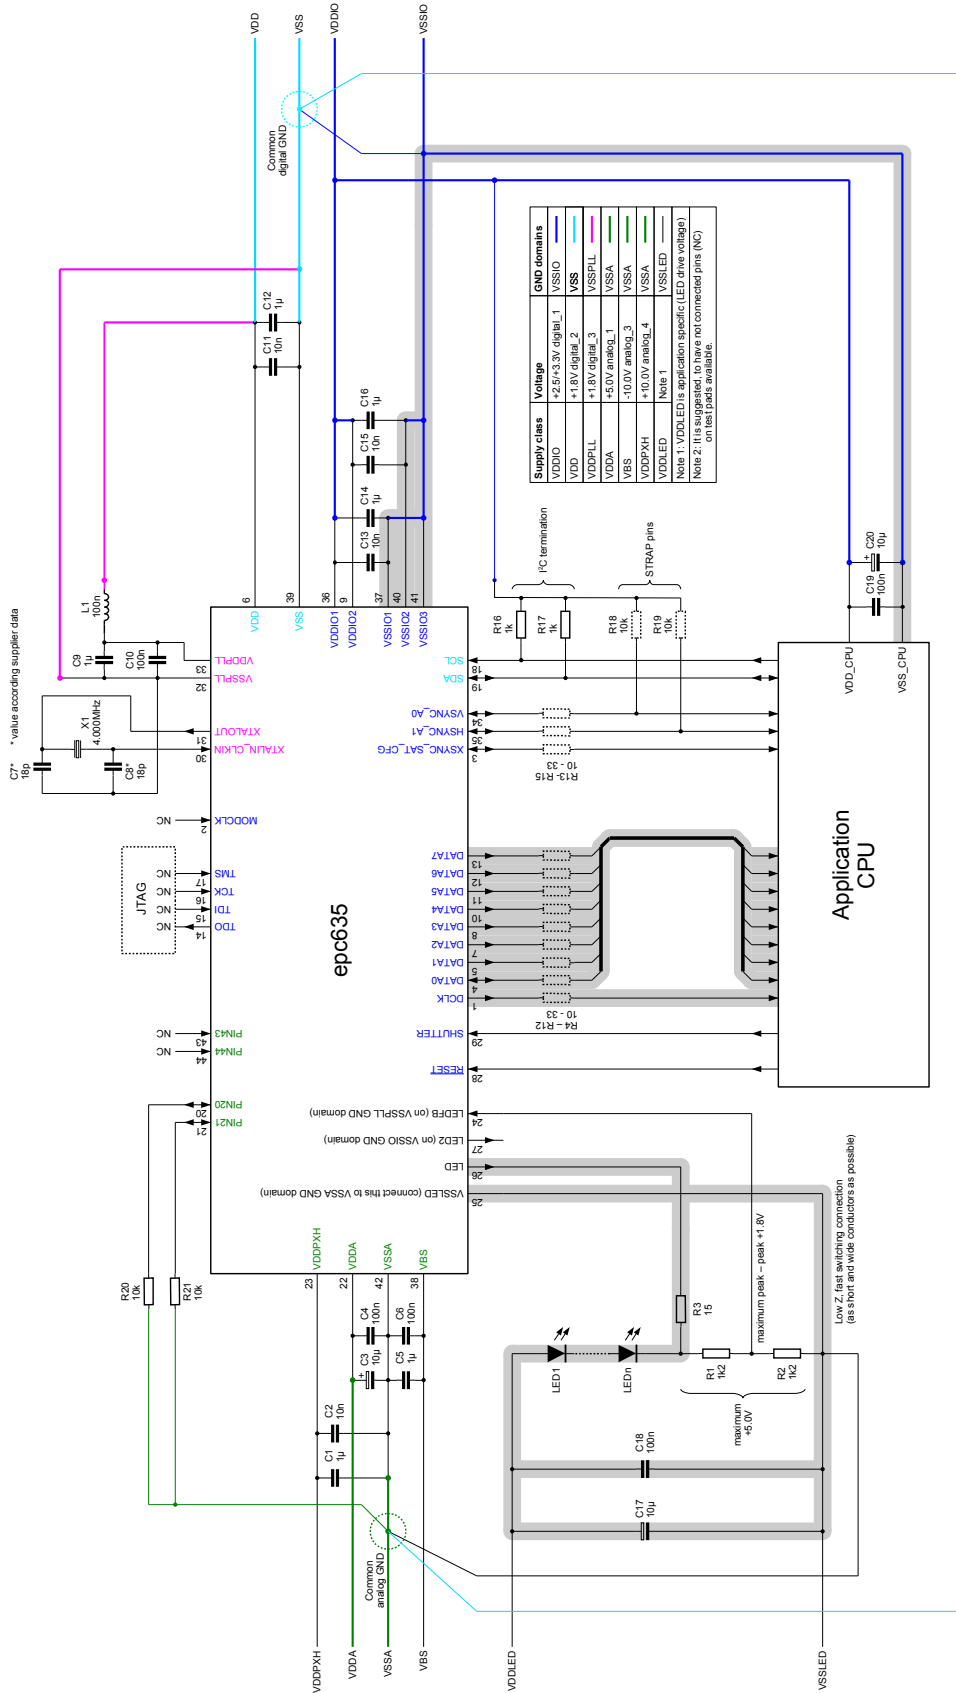
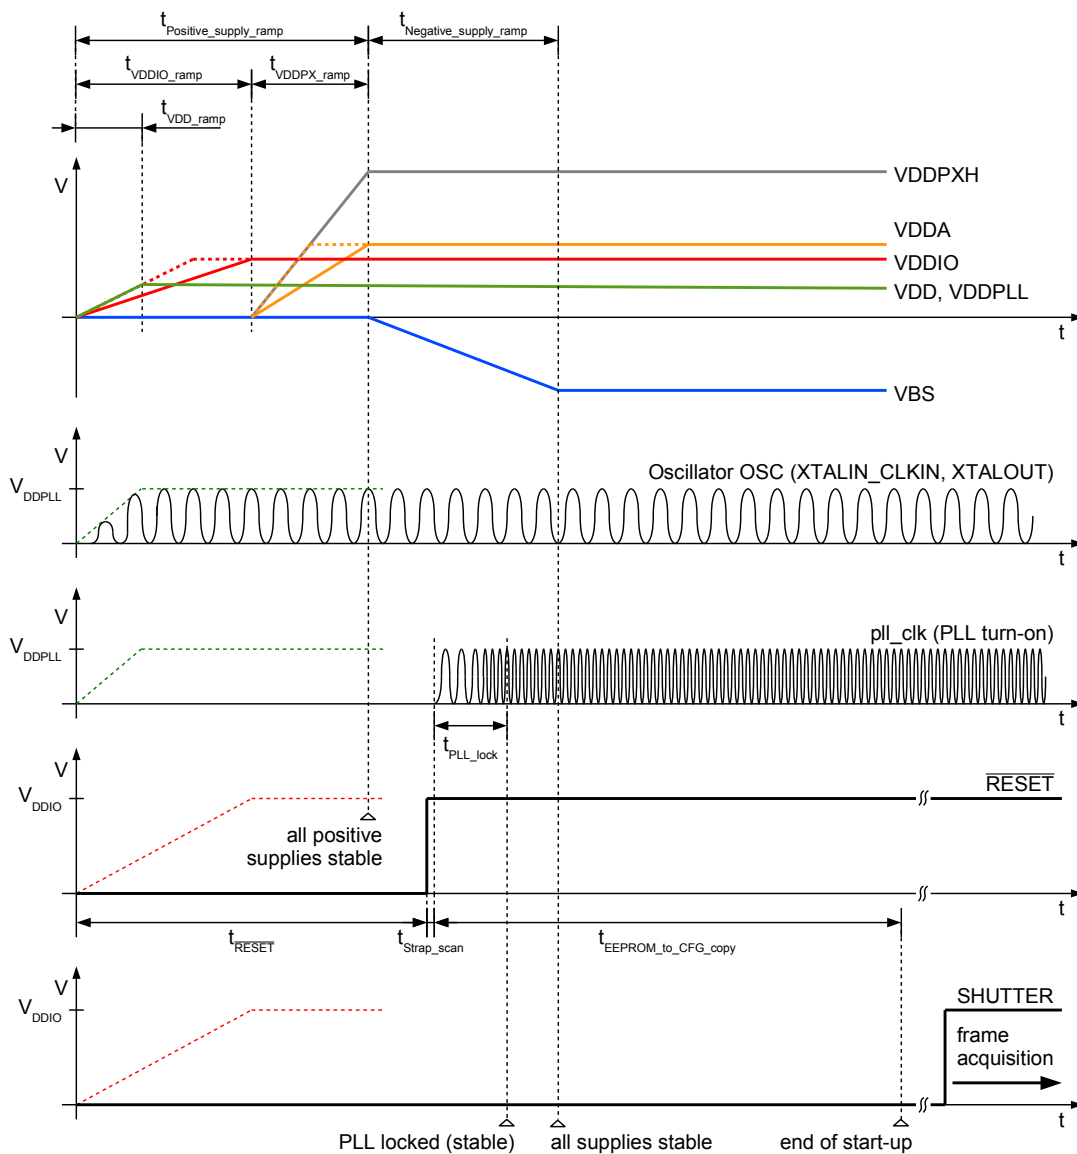

Figure 14: Typical application diagram
Figure 17: Start-up and reset sequence during power-up (normal mode)
epc635 is supplied with four positive (+1.8V, +2.5/3.3V, +5V, +10V) and one negative (VBS) external DC supply voltage levels (Figure 14).
- When same supply is shared together with OSC and PLL, their supply wiring must be separated from the digital wires and physically isolated from each other. These supplies are marked in the application diagram as VDD and VDDPLL, respectively (Figure 14). A good practice is inserting on the PCB a series inductance of 100nH between them close to the supply source, then creating separate supply islands for both on the board. The XTAL/OSC and PLL are critical parts of the chip which directly impacts the optical system performance (i.e. distance calculation). Therefore, if the +1.8V supply is too noisy, it is recommended for the application to have a dedicated silent +1.8V supply only for OSC and PLL.
+5V is used for supplying analog blocks of the chip e.g. pixel-field drivers and ADC readout circuitry. Refer to Figure 14).
- There are optional pull-up resistors R19 and R19 (10kΩ) to set initial values of some configuration registers during start up of the chip. Such outputs pins are called strap pins. They are scanned one time immediately after $\overline{\text{RESET}}$ is released (chapter 5.3.3.). Two LSB of the I²C device address bits are programmable via these strap pins during start-up (chapter 5.3.). When there is only one slave and one master on the I²C bus as in the application diagram (Figure 14), these resistors can be omitted.
To guarantee the proper function of the chip, the remaining, not here listed pins have to be connected according to Figure 14.
Table 10: Values of component related to epc635 chip (Figure 14)
During the power-up sequence, VDD and VDDPLL supplies (Figure 17) must be applied at the same time to the epc635. VDDIO can be applied either at the same time or after VDD and VDDPLL supplies become stable. In a system where VDDIO voltage is connected in parallel to application CPU IO supply pins (see Figure 14), VDD and VDDPLL can be generated by a linear regulator directly from VDDIO supply. In this case, all these three supplies ramp together.
The epc635 has output pins with dual/alternative functionality for PCB level flexible start-up configuration changing, called 'strap pins'. $\overline{\text{RESET}}$ release is followed by a very short strap pin scanning step. The chip programs all of its strap pins as inputs with internal weak pull-downs enabled for 4 *osc_clk* periods. If there is no external pull-up resistor connected, the corresponding strap pin will be scanned as logic 0 due to internal pull-down resistor. If there is an external pull-up resistor connected (Figure 14), it will override the internal pull-down and corresponding pin will be scanned as logic 1. After the strap scan period, pins are programmed back as outputs so that they can be used for their main function. Strap pins and their definitions are listed below (Table 11).
The epc635 starts using either the internal 4MHz oscillator OSC with a crystal/resonator (Figure 14) or an external 4MHz clock, followed by an EEPROM copy sequence in parallel to the PLL turn-on phase. This is the factory default configuration.